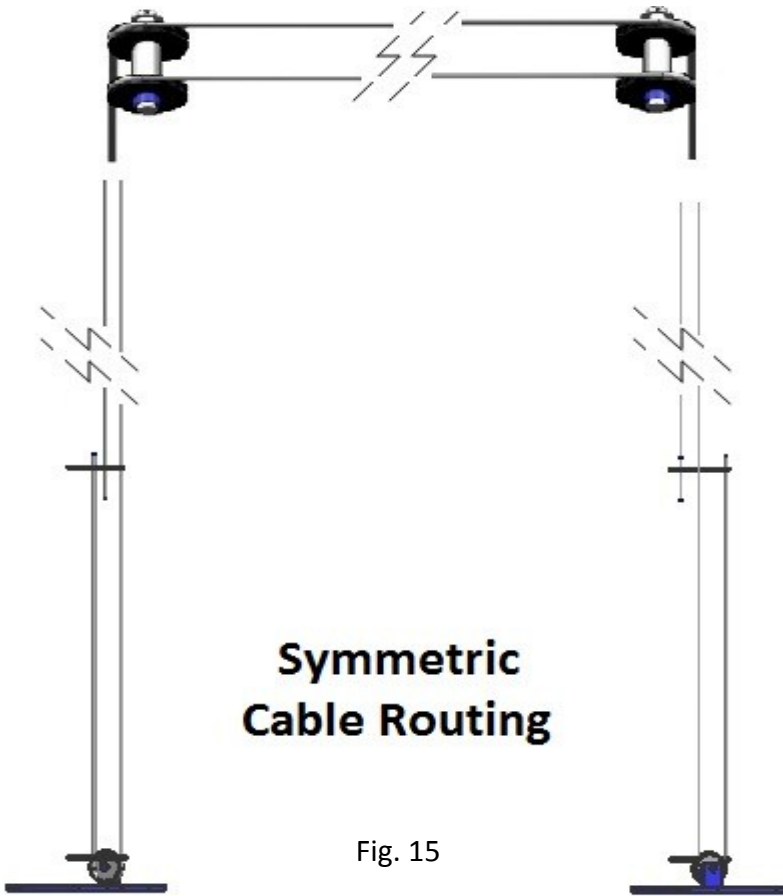

Fig. 15
Step 15 : Route cables as show in Diagram below for your lift configuration. Be sure to remove the sheaves and replace after cables have been routed. Fig. 15, 16, 17, 18, 19, 20